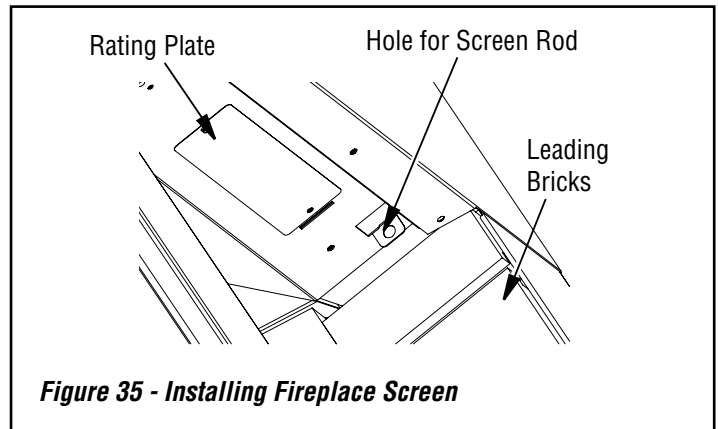

Figure 35 - Installing Fireplace Screen
2. Bend tab on both sides with the hole down to insert the round end screen rod into hole on the left and right side of smoke shelf (**Figure 35**).